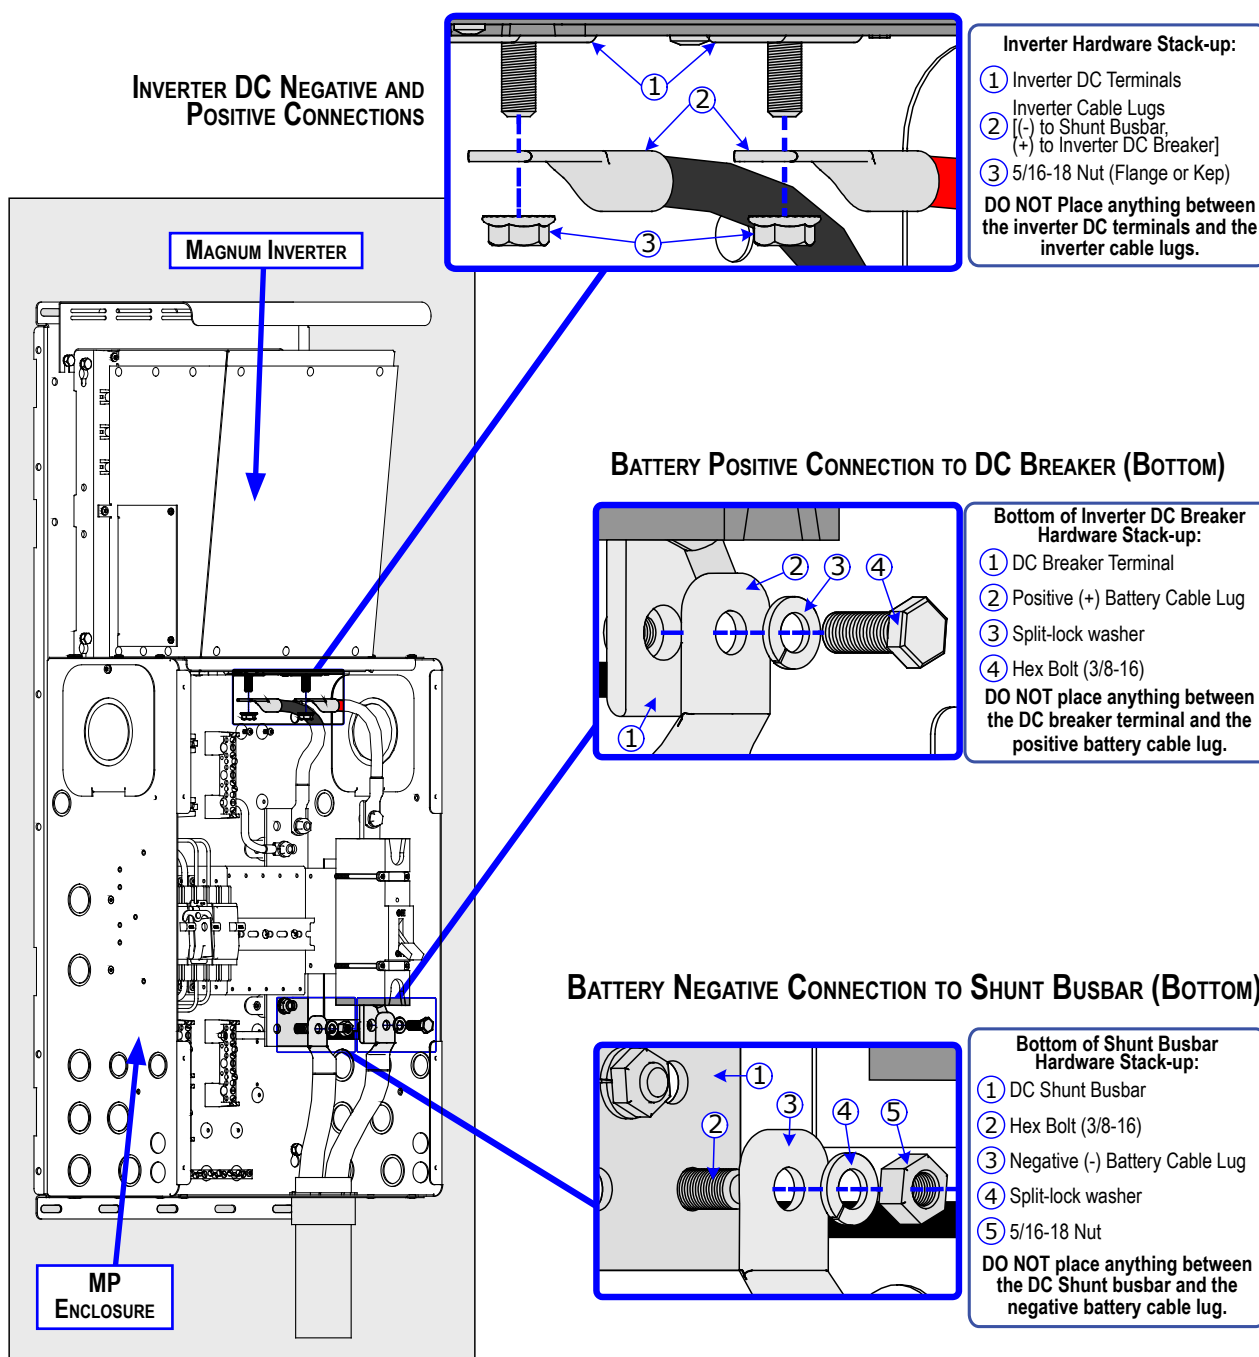

Figure 3-20, DC Hardware Connections
Do not put anything between the DC cable lug and the DC terminals (i.e., on the Inverter DC Disconnect, DC shunt busbars, batteries, or inverter terminals). Ensure the hardware used to hold these connections is stacked correctly. Incorrectly installed hardware causes a high resistance connection which could lead to poor inverter performance, and may melt the cable and terminal connections. Follow Figure 3-20 to connect the DC cables and stack the hardware correctly.
3. Ensure the DC wire connections (on the batteries, inverter, DC circuit breaker, and DC shunt busbars) are flush on the surface of the DC terminals and the hardware used to hold these connections are stacked correctly (see Figure 3-20); and then securely tighten these DC connections (refer to the torque requirements in Table 3-2).